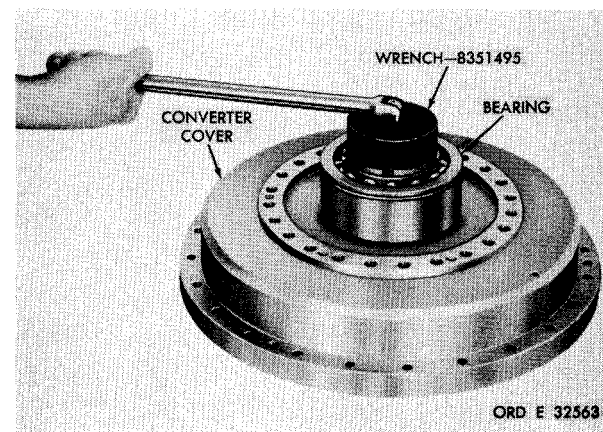

Figure 144. Removing (or installing) converter lock nut
(5) Using spanner wrench 8351495, remove the converter lock nut (fig. 144).
(6) Remove the double-row ball bearing from the hub of the converter cover.